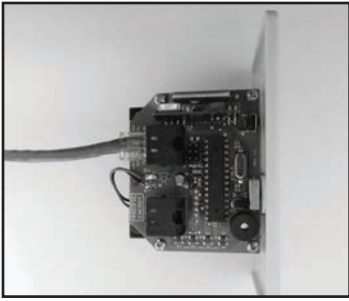

Figure 57: Wall switch - electronics side.
3. Wall mounted Remote Control Receiver (Figure 57) & (Figure 58).
2. Install 3 AAA batteries into the Proflame2 Remote Control Transmitter (Fig. 57).